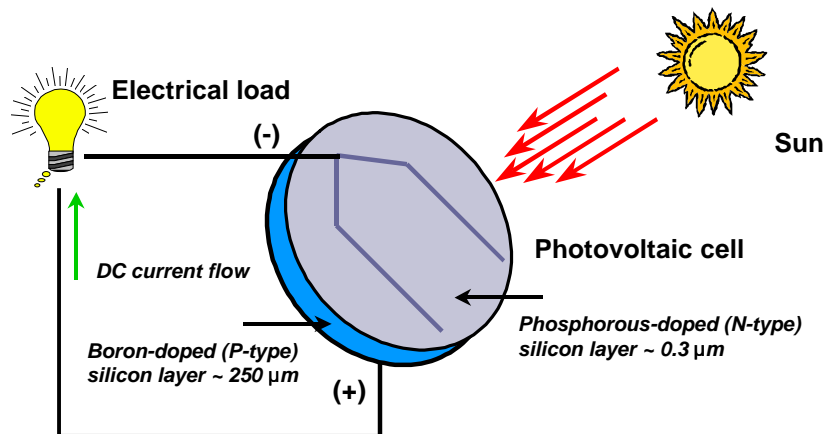

Figure 1. Diagram of photovoltaic cell.
Q. What are Photovoltaics (PV)?
- A. *Photovoltaic (PV) - or solar cells* as they are often referred to, are semiconductor devices that convert sunlight into direct-current (DC) electricity. A typical silicon PV cell is a thin wafer consisting of an ultra-thin layer of phosphorus-doped (N-type) silicon on top of a thicker layer of boron-doped (P-type) silicon. An electrical field is created near the top surface of the cell where these two materials are in contact, called the P-N junction. When sunlight strikes the surface of a PV cell, this electrical field provides momentum and direction to light-stimulated electrons, resulting in a flow of current when the cell is connected to an electrical load (Figure 1).